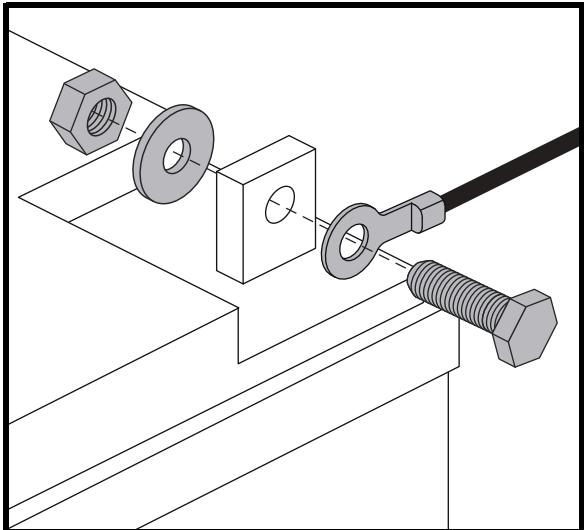

Figure 13. Battery Terminal Hardware
4. Disconnect the battery cables from the battery terminals by sliding back the terminal boots and unscrewing the nut from the bolt. See **figure 13**.